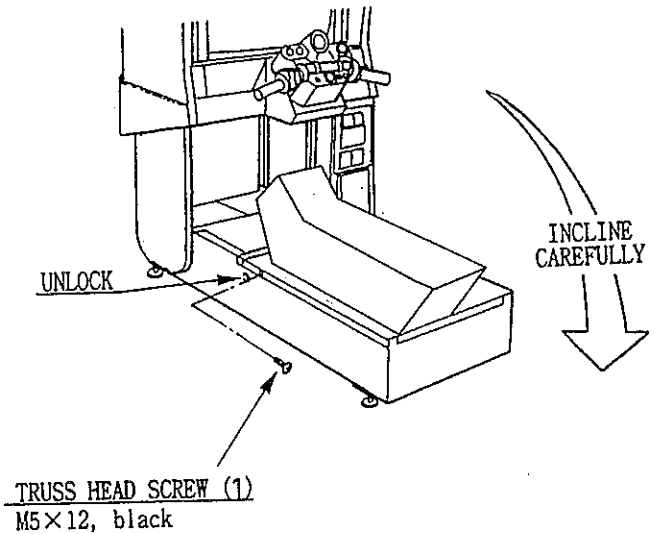

FIGURE 28: UNDERSEAT CABINET ACCESS
3. Remove the two #15 anti-tamper Torx screws (and washers) that secure the left-side motorcycle seat to the underseat cabinet. They are located just above the two locks on the opposing sides of the underseat cabinet (see Figure 28).
4. Unlock the two locks on opposing sides of the left-side underseat cabinet (see Figure 28). The same key is used for both the locks on both the left- and right-side underseat cabinets.
6. Tip the seat slowly up and back until the seat's back edge is resting on the protected ground (see Figures 28 and 30). Be sure not to catch or pinch your fingers between the seat and the monitor cabinet.
4. Tip the seat slowly up and forward until the bottom of the seat rests on the underseat cabinet top edge (see Figures 28 and 30). Be sure not to catch or pinch your fingers between the seat and the monitor cabinet.
5. Lock the two locks on opposing sides of the left-side underseat cabinet (see Figure 28). The same key is used for both the locks on both the left- and right-side underseat cabinets.
6. Install the two #15 anti-tamper Torx screws (and washers) that secure the left-side motorcycle seat to the underseat cabinet. They are located just above the two locks on the opposing sides of the underseat cabinet (see Figure 28).